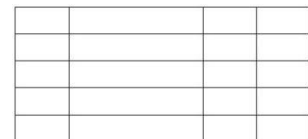

Fig 18
4. Enter to finish moving. (Fig18)